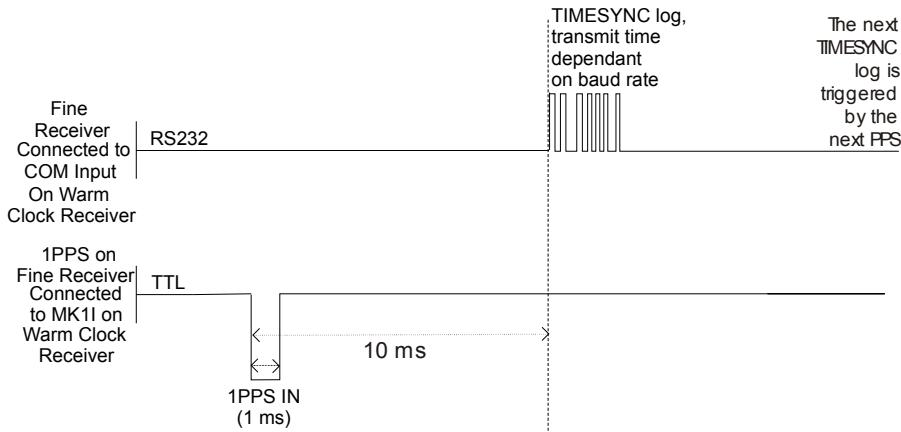

Figure 1: 1PPS Alignment
Figure 1 on *Page 57* shows the 1PPS alignment between a Fine and a Cold Clock receiver. See also the TIMESYNC log on *page 564* and the *Transfer Time Between Receivers* section in the *OEMV Family Installation and Operation User Manual*.
- b. It is presumed that the TIMESYNC log, see *Page 564*, was issued by a Primary GPS receiver within 1000 ms, but not less than 800 ms, of the last 1PPS event, see *Figure 1, 1PPS Alignment on Page 57*. Refer also to the *Transfer Time Between Receivers* section in the *OEMV Family Installation and Operation User Manual*.